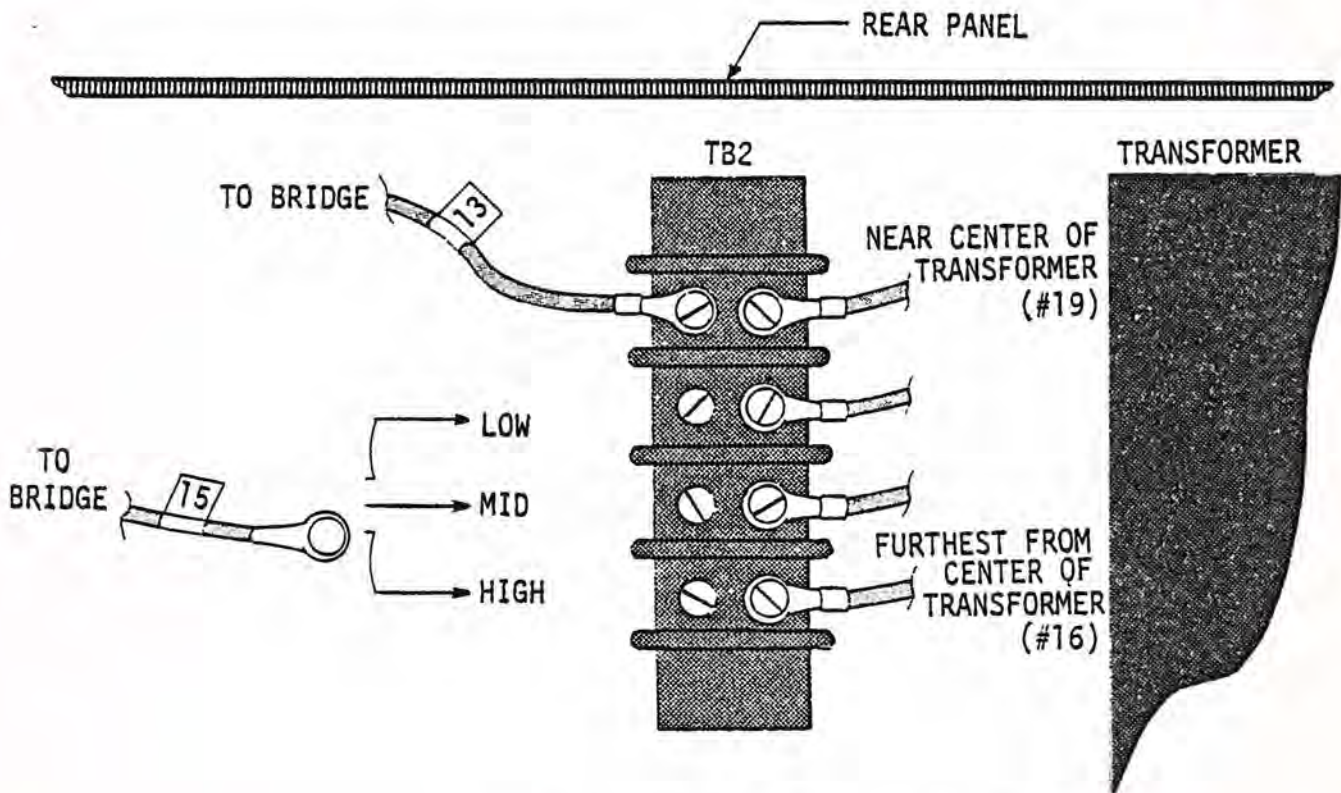

Figure 3-9
A. Adjusting for differing loads. The +18 and -18 volt supplies are pre-regulated, but the +8 volt supply must be adjusted for differing loads by moving the tap on the power transformer secondary. The transformer secondary taps are shown in Figure 3-9. The correct secondary tap